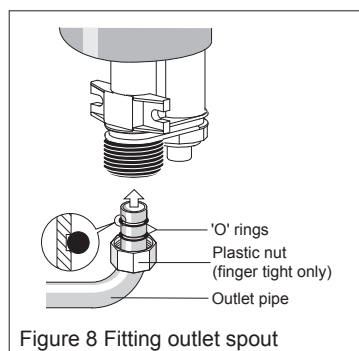

Figure 8 Fitting outlet spout
- 5.4 Fit the outlet spout - **DO NOT** over tighten, finger tight will be sufficient - see Figure 8 above.